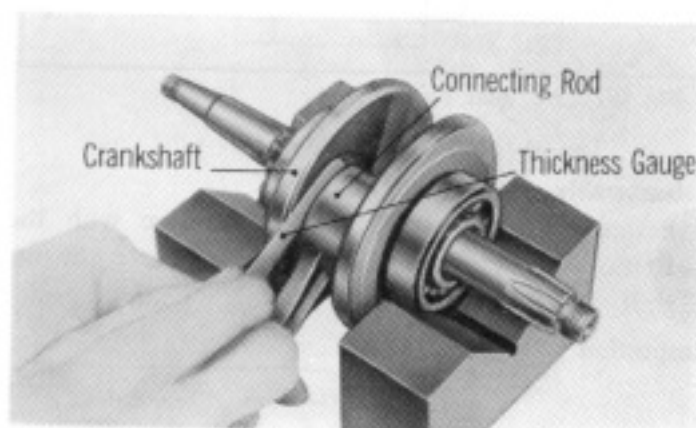

Fig. 43
2. Measuring the connecting rod side play. Measure the amount of connecting rod side play using a thickness gauge (Fig. 43).